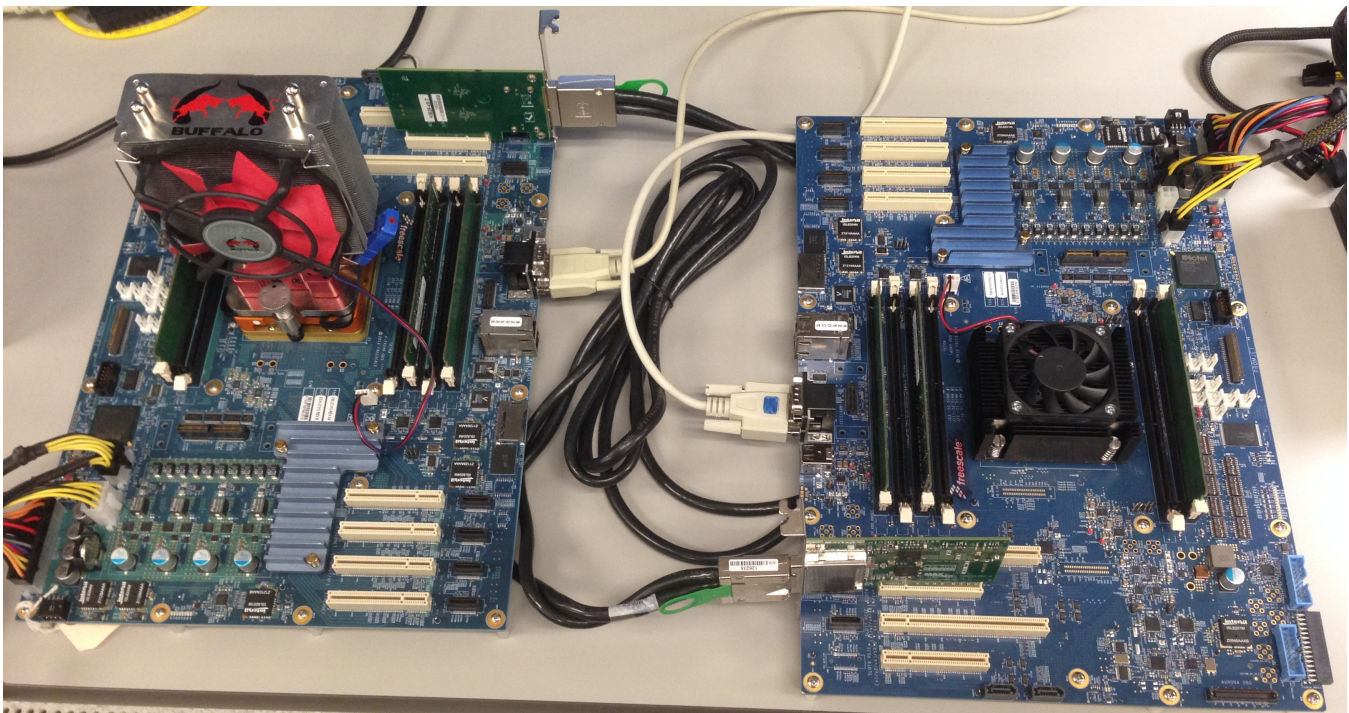

Figure 1. SRIIO hardware connection between two T4204QDS Boards
1. Connect 750W Power Supply as shown in Figure 1.
4. Place the PCIe Gen 2 riser cards in slot 6 on both boards as per shown in Figure 1. SRIO 1 port is on slot 6 on the T4240QDS.